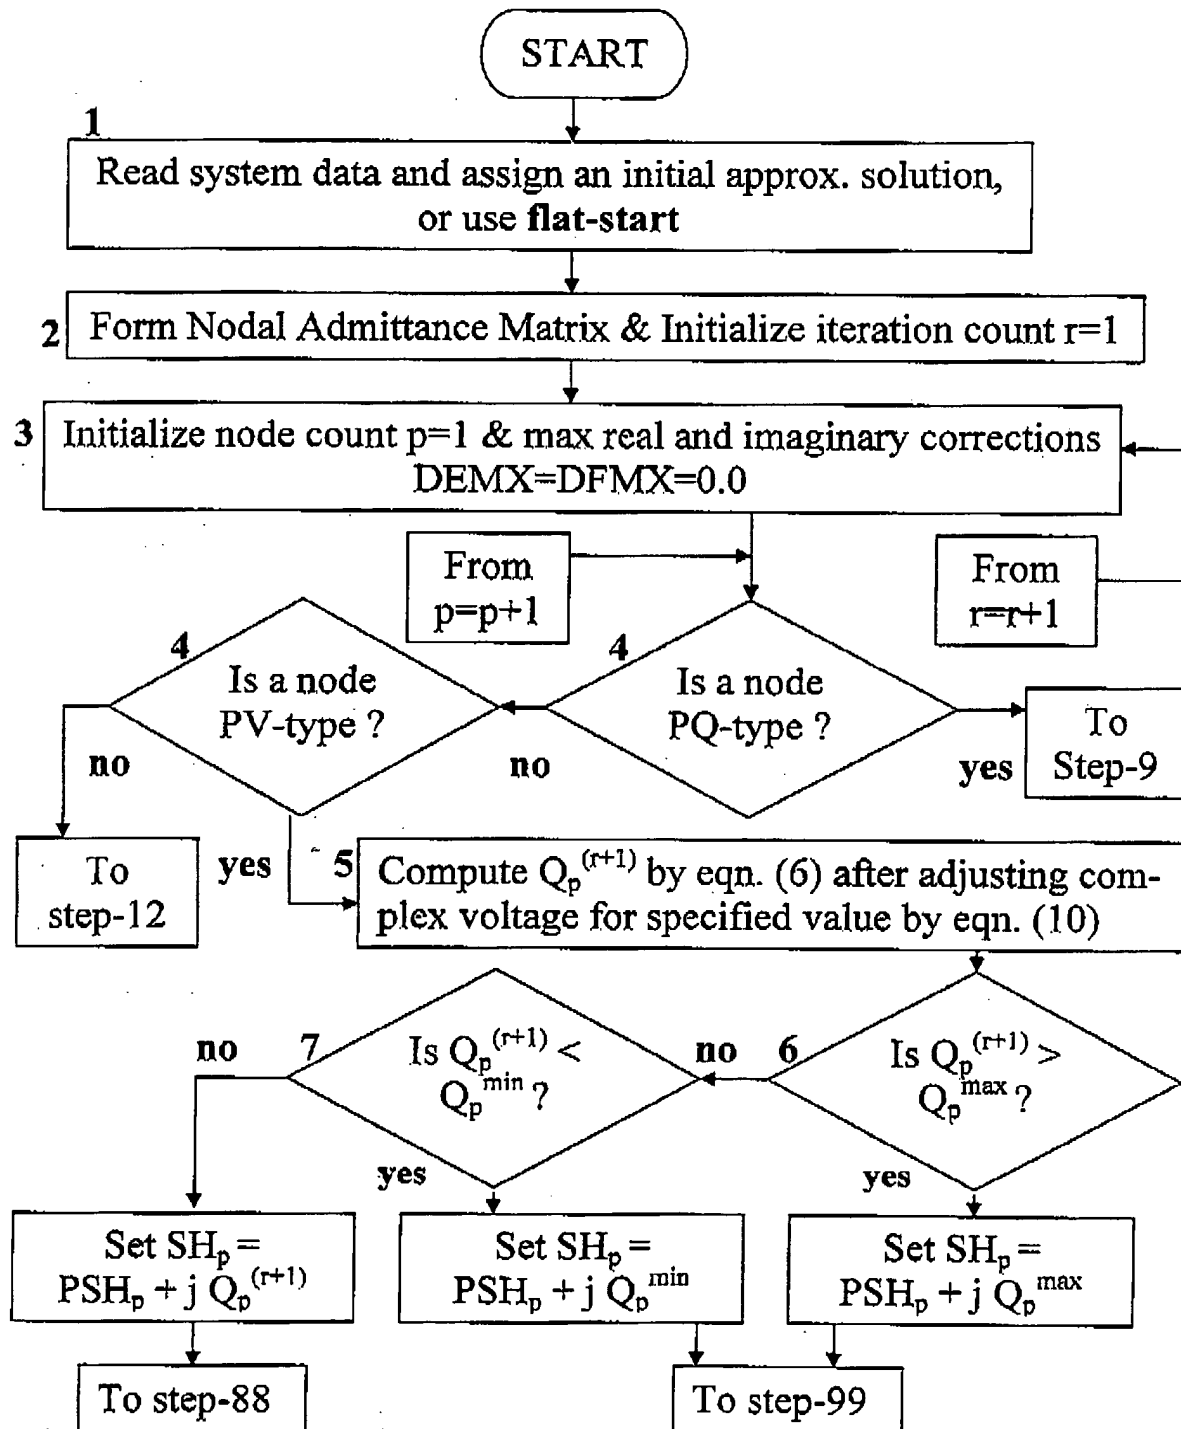

**Fig. 2b: Level-1 sub-networks around circled nodes
**Fig. 2c: Non-redundant Level-1 sub-networks of fig. 2b are regrouped to reduce the number of processors required without increasing the number of nodes in any regrouped sub-network larger than the original largest sub-network of 6-nodes**